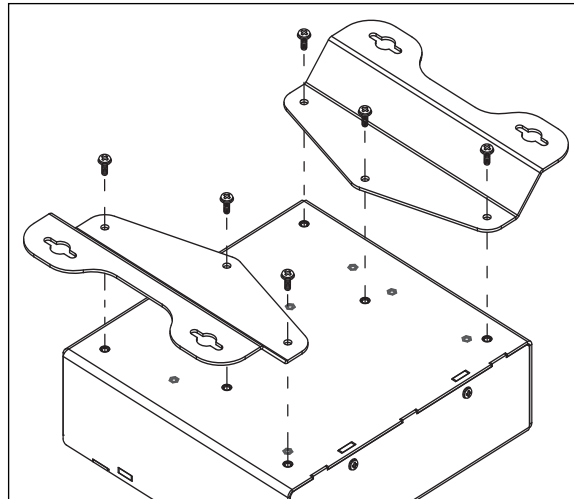

Figure 2-8. Secure Mounting Brackets
1. Align the mounting brackets with the necessary holes on the underside of the CPU enclosure (Figure 2-8).